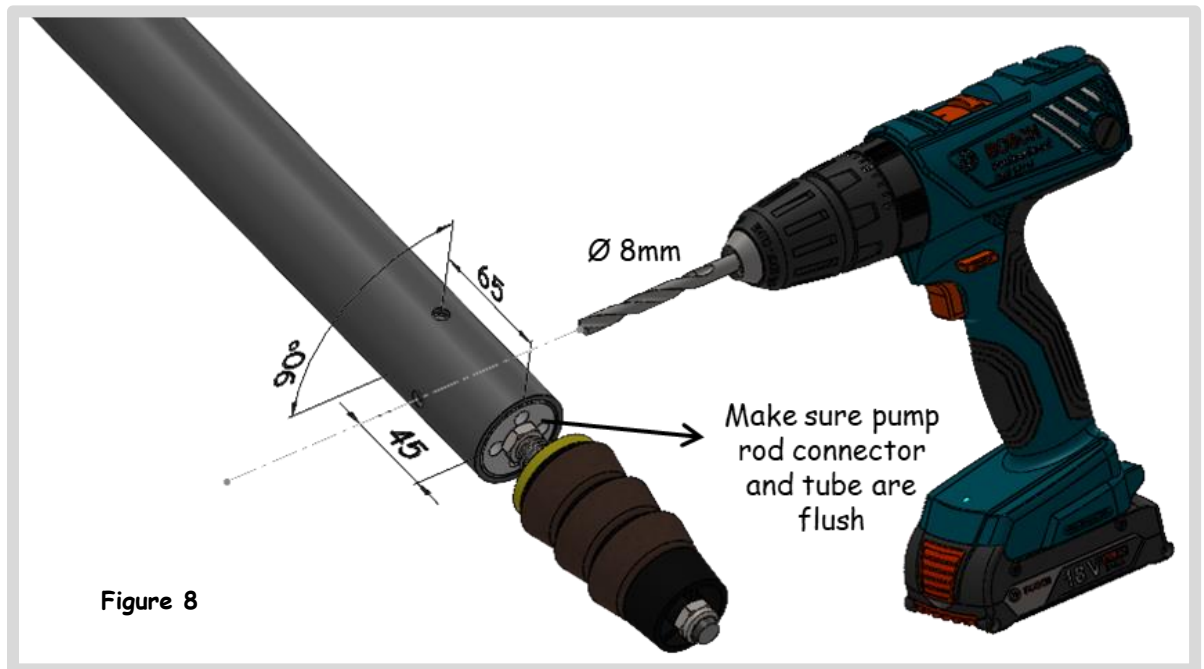

Figure 8
2. Place the piston assembly in the 50mm tube and drill two 8mm holes as shown in Figure 8.